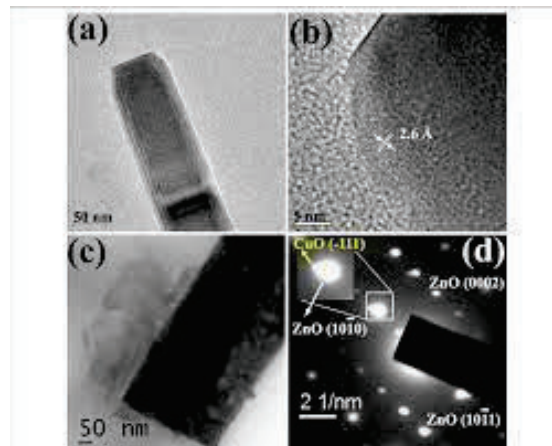

Figure 2: Image of ZnO nanorods.
- (b). Figure 2 shows image of ZnO nanorods. Explain working principle of equipment you can use to obtain image in Figure 2. State information you can obtain from this equipment.